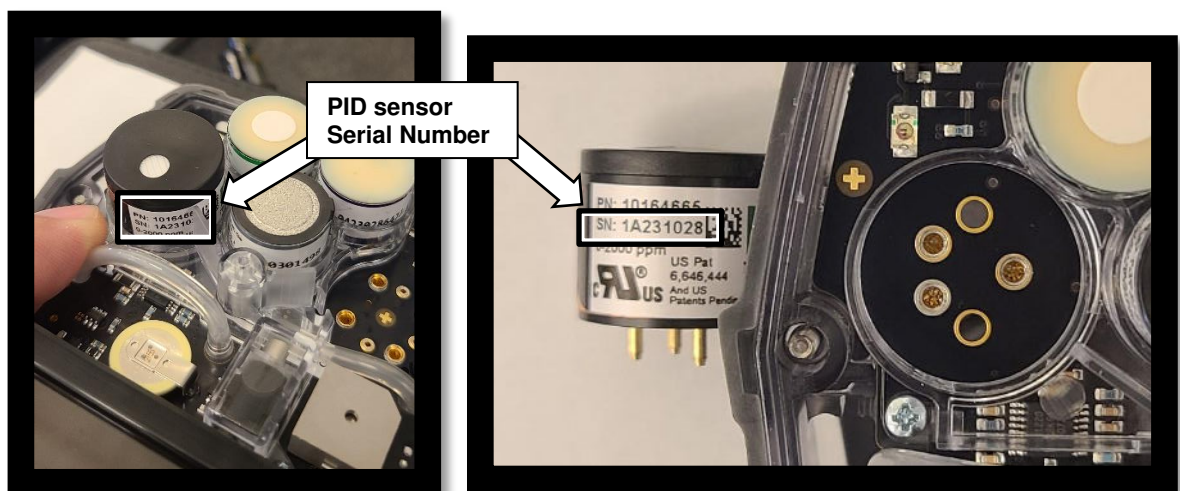

Figure 4: PID Sensor Serial Number Identification
- To find the date code for the PID sensor, reference the 2nd, 3rd, and 4th digits of the serial number of the PID sensor on the side of the sensor. (Figure 4)